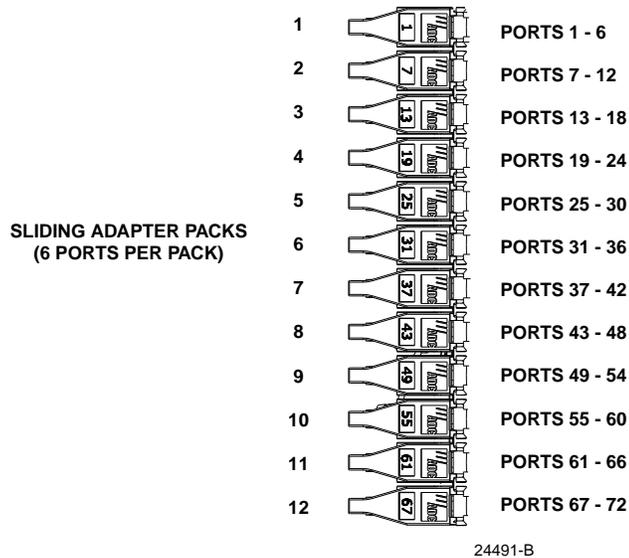

Figure 50. Adapter Pack Distribution Port Designations
*The eight fibers in MPO adapter ports 3 – 10 are connected to the distribution output ports. Ports 1– 2 and 11–12 are not used. The adapter pack distribution output port designations are shown in Figure 50.
*The twelve fibers in MPO adapter ports 1 – 12 are connected to the distribution output ports. The adapter pack distribution output port designations are shown in Figure 50.